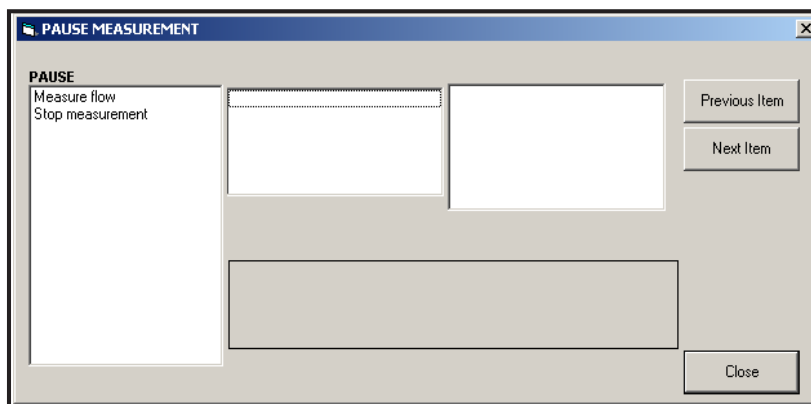

Figure 21: The *Pause Measurement* Window
2. Expand the *Edit Functions* option, and double-click on the *Pause Measurement* entry. A window opens similar to Figure 21.